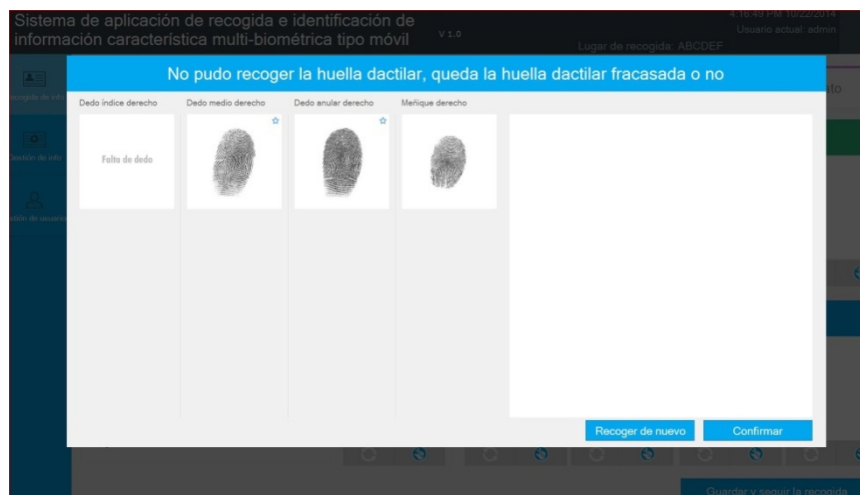

Figure 5.2.4.1
4. Because other reasons, it leads to the finger-print collection is not qualified; the system will provide the reason after one collection of non-qualification (as shown in figure 5.2.4.1).